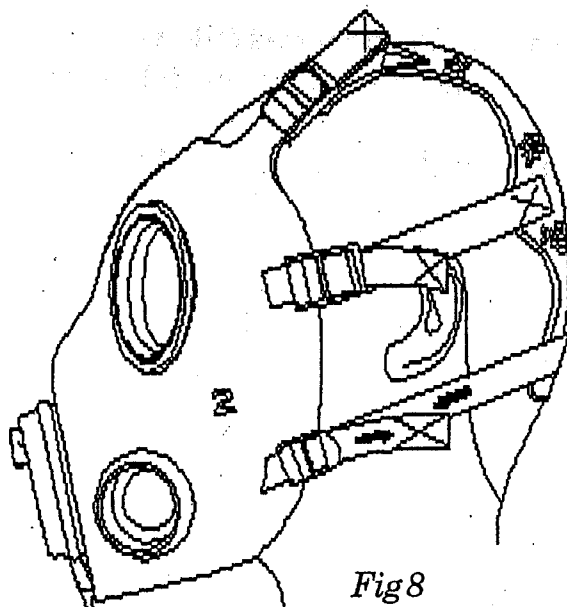

Fig 8
- Pull the free ends of the harness straps until light tension is felt (see fig 8)